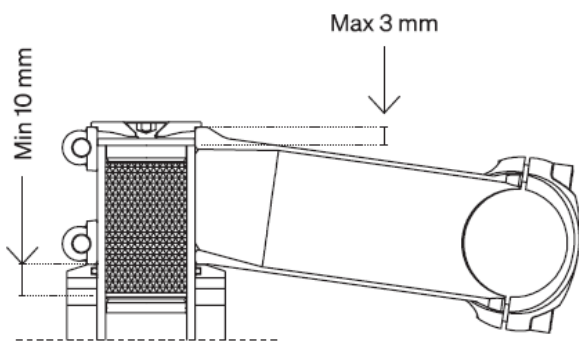

Fig. 5.2.1
1. The expander must have a length enough to completely cover the stem clamp area and to exceed for atleast 10mm the stem clamp height (Fig. 5.2.1);
2. To allow the headset adjustment, the gap between the upper edge of the stem and the upper edge of the fork steerer must not exceed the value of 3mm (Fig. 5.2.1);